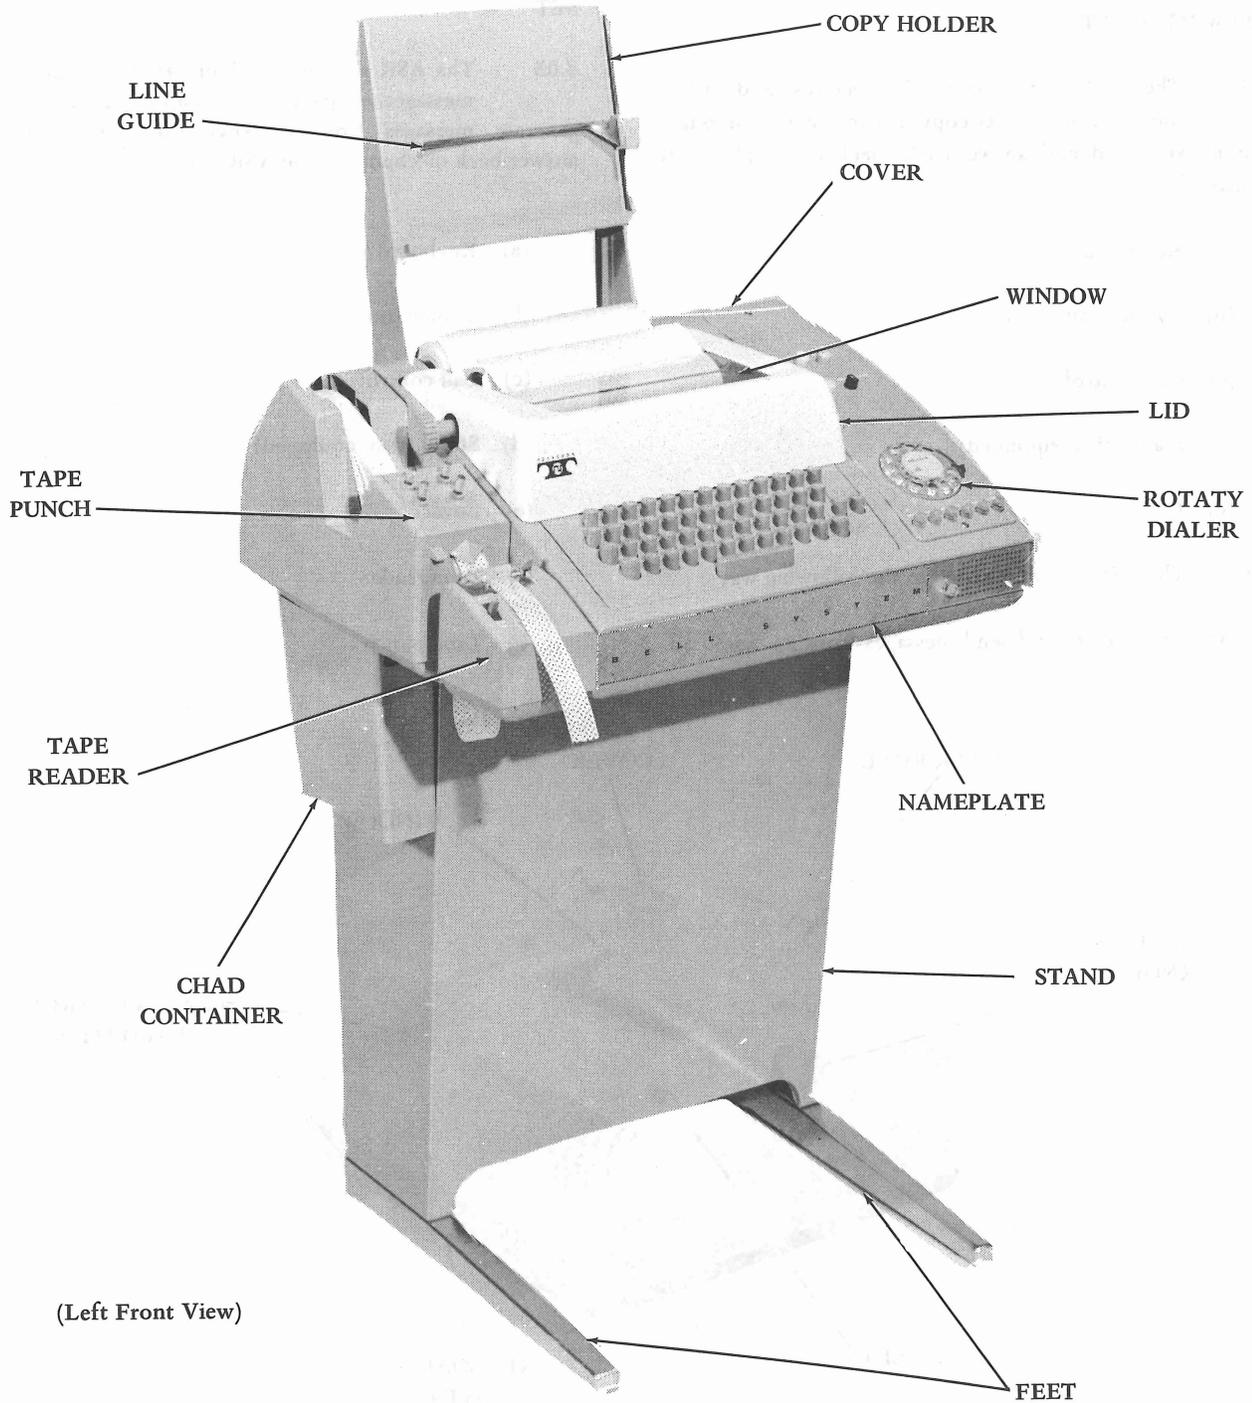

Figure 3 - Automatic Send-Receive (ASR) Teletypewriter Set
2.05 The ASR set (Figures 3 and 4) receives and records messages on paper tape and/or page copy. It can generate messages from its keyboard, tape reader, and answer-back mechanism. The ASR consists of: